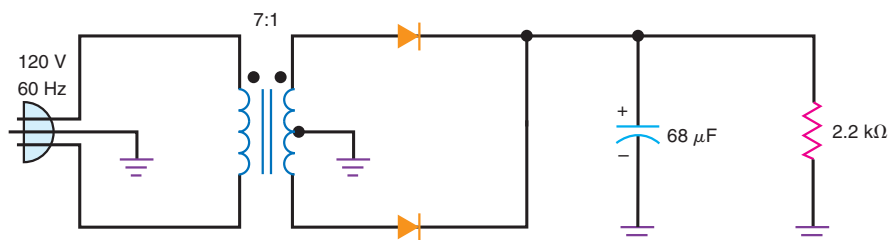

Figure 30-28
30.9 In Fig. 30-28, calculate the dc output voltage and ripple.
- 30.10** What happens to the ripple in Fig. 30-28 if the capacitance value is reduced to half?
- 30.11** In Fig. 30-28, what happens to the ripple if the resistance is reduced to $500\ \Omega$?